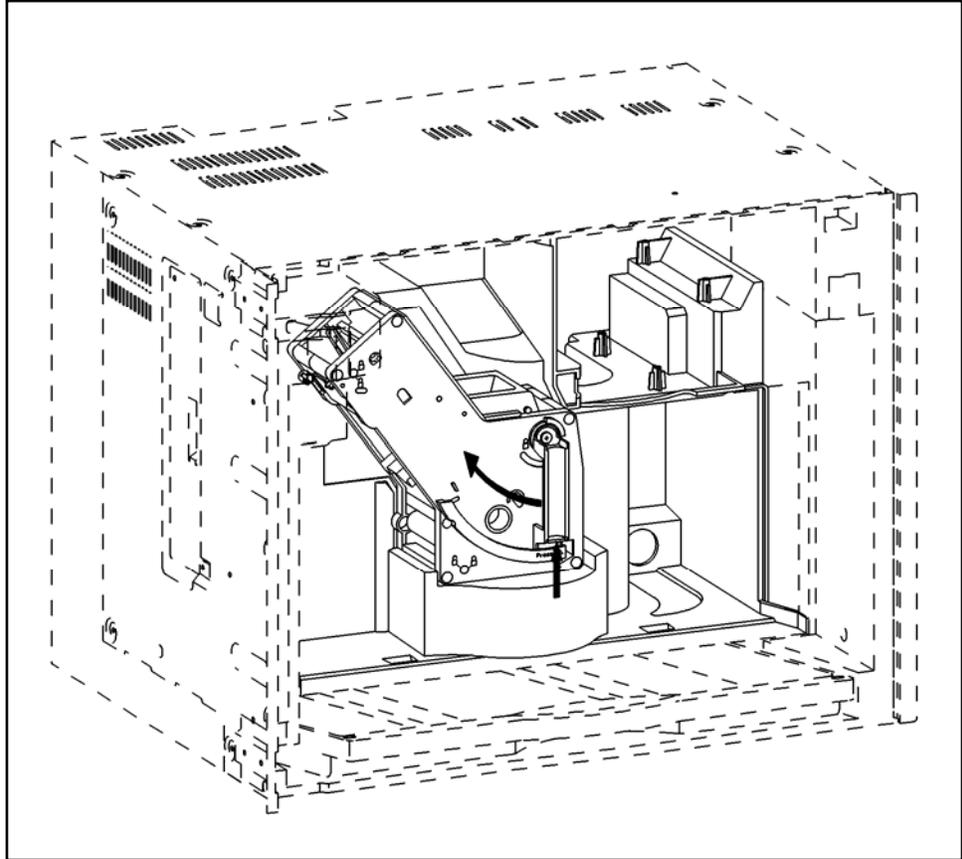

Figure 5-12: CVA4070 Brew Unit Removal
11. Release the brew unit and take it out of the appliance (Figure 5-12).